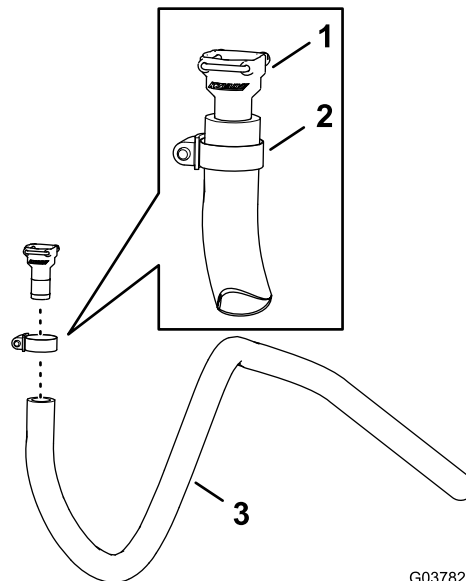

Figure 95
1. Assemble the straight barbed fitting (3/4 inch) that you removed in step 3 of Installing the Shutoff Valve for the Optional Spray Gun Kit or the Electric Hose Reel Kit \(page 42\) to the hose—1.3 x 180 cm (1/2 x 71 inches) with a hose clamp 13 to 32 mm (1/2 to 1-1/4 inches) as shown in Figure 95.